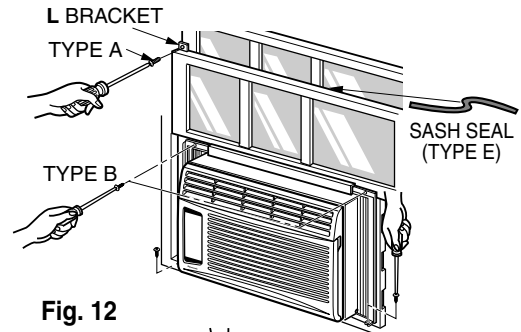

Fig. 12
Extend the guide panels (TYPE F) to fill the window opening using 4 screws (TYPE B) to secure them, as shown in Fig. 12.
a. Cut the sash seal (TYPE E) to the window width. Stuff the sash seal between the glass and the window to prevent air and insects from getting into the room, as shown in Fig. 12.
b. Fasten the L bracket using a screw (TYPE A), as shown in Fig. 12.